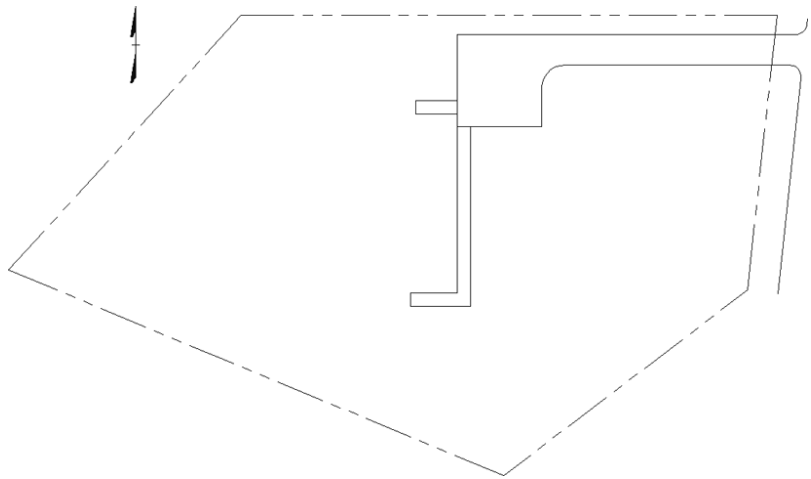

FIGURE 13.11: The completed site plan
4. Place the block in the upper-left quadrant of the plan, just outside the property line, as shown in **Figure 13.11**.
Your drawing should look like Figure 13.11.